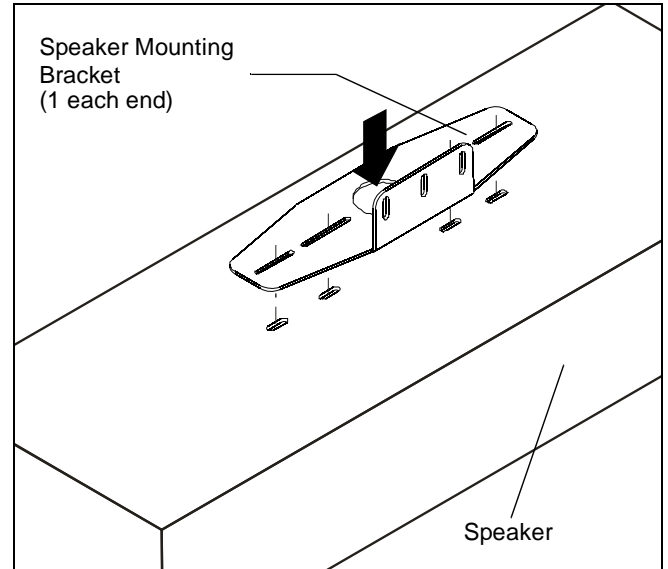

Figure 8
3. Install left and right speaker mounting brackets to speakers using the installation instructions provided with the speakers and the dimensional drawing below. (See Figure 8) and (See Figure 9)